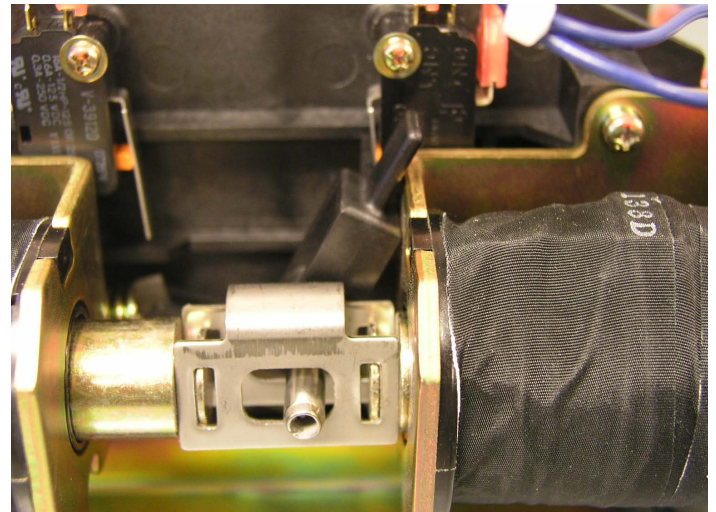

Figure 21. TS Manual Operating Handle (Typical)
Step 2: Manually switch the contactor to the position required. This can be done by locating the manual handle (shipped loose) and installing it on the manual operator of the contactor (located between the two operating coils, Figure 21 typical). The rotate the manual handle to the desired position.